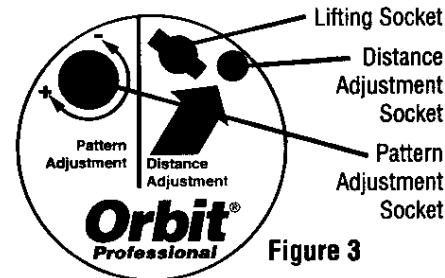

Figure 3
Insert the metal hex end of the Orbit key into the distance adjustment socket (Fig. 3). Turn the screw clockwise (into the stream of water) to decrease the radius, or counterclockwise to increase the radius. (Do not rotate the screw too far either way or it will fall out.)
1. Insert the plastic end of the Orbit key into the lifting socket (Fig. 3) of the sprinkler. Pull the riser up to gain access to the nozzle socket.